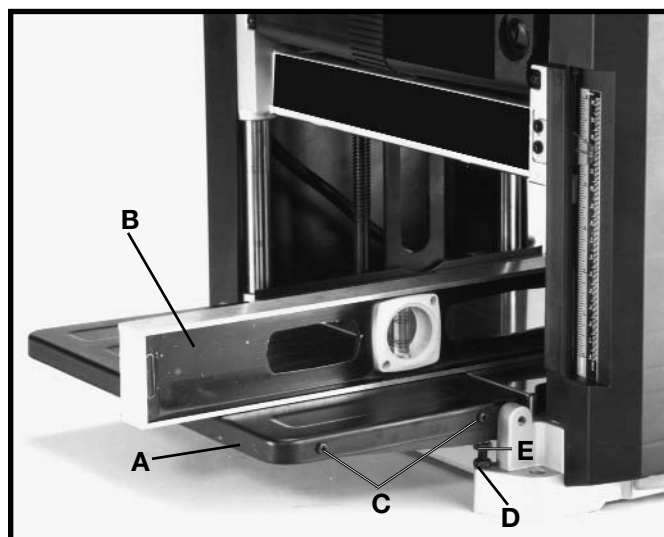

Fig. 19
The table extensions, one of which is shown at (A) Fig. 19, must be level with the planer table. To check and adjust if necessary, proceed as follows:
2. Place a straight edge (B) Fig. 19, on the planer table with one end of the straight edge extending out over the infeed table extension (A) as shown. Check to see if the table extension is level with the planer table on both ends of table extension.
3. If an adjustment is necessary, loosen locknut (D) and adjust stop screw (E) on each end of the table (A) until table extension is level with planer table. Then tighten locknut. Recheck and make certain inside edge of table extension is level with planer table. **NOTE: If necessary, loosen two screws (C), adjust table extension and tighten two screws.**
4. Adjust opposite end of table extension (A) in the same manner. Make sure table is solidly supported in the level position.